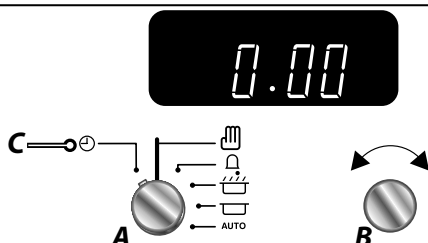

Fig. 2.31
2. Turn the **Timer (A)** knob to the **Clock (C)** setting and hold for approx 8 seconds. The display will show 'ON' (**Fig. 2.31**).